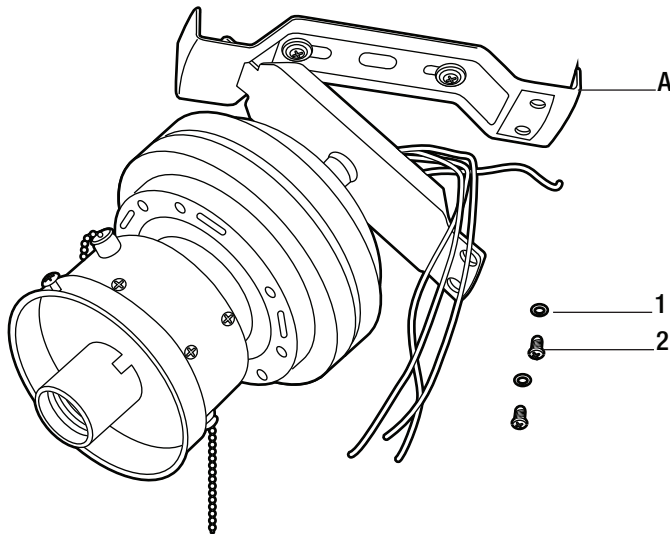

Figure 7
- Match the three holes at two ends of the supporting bar (A) with three screws of the hanger. Secure the fan assembly onto the supporting bar (A) using the preassembled screws (1) and washers (2) (Figure 7 and 8).